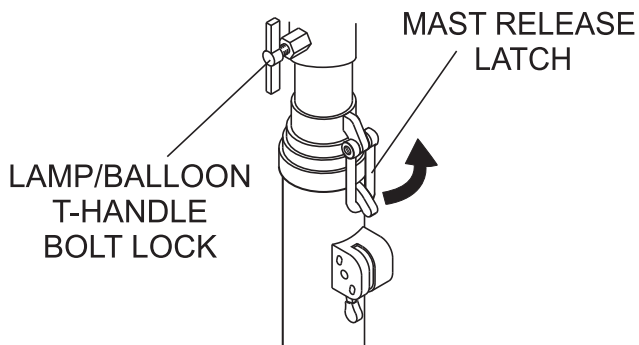

Figure 10. T-Handle Bolt Lock and Mast Release Latch
5. Before raising the mast, make sure the T-Handle Bolt Lock (Figure 10) is securely tightened. This will prevent the balloon/lamp assembly from falling off. In addition make sure that the lamp power cable (balloon) is connected to the lamp power cable (ballast).
6. Push down the mast and unhook the Mast Release Latch (Figure 10). Extend the mast to the desired height.
3. Push down the mast and unhook the Mast Release Latch (Figure 10). **Fully lower** the mast. Extend the mast to the desired height.